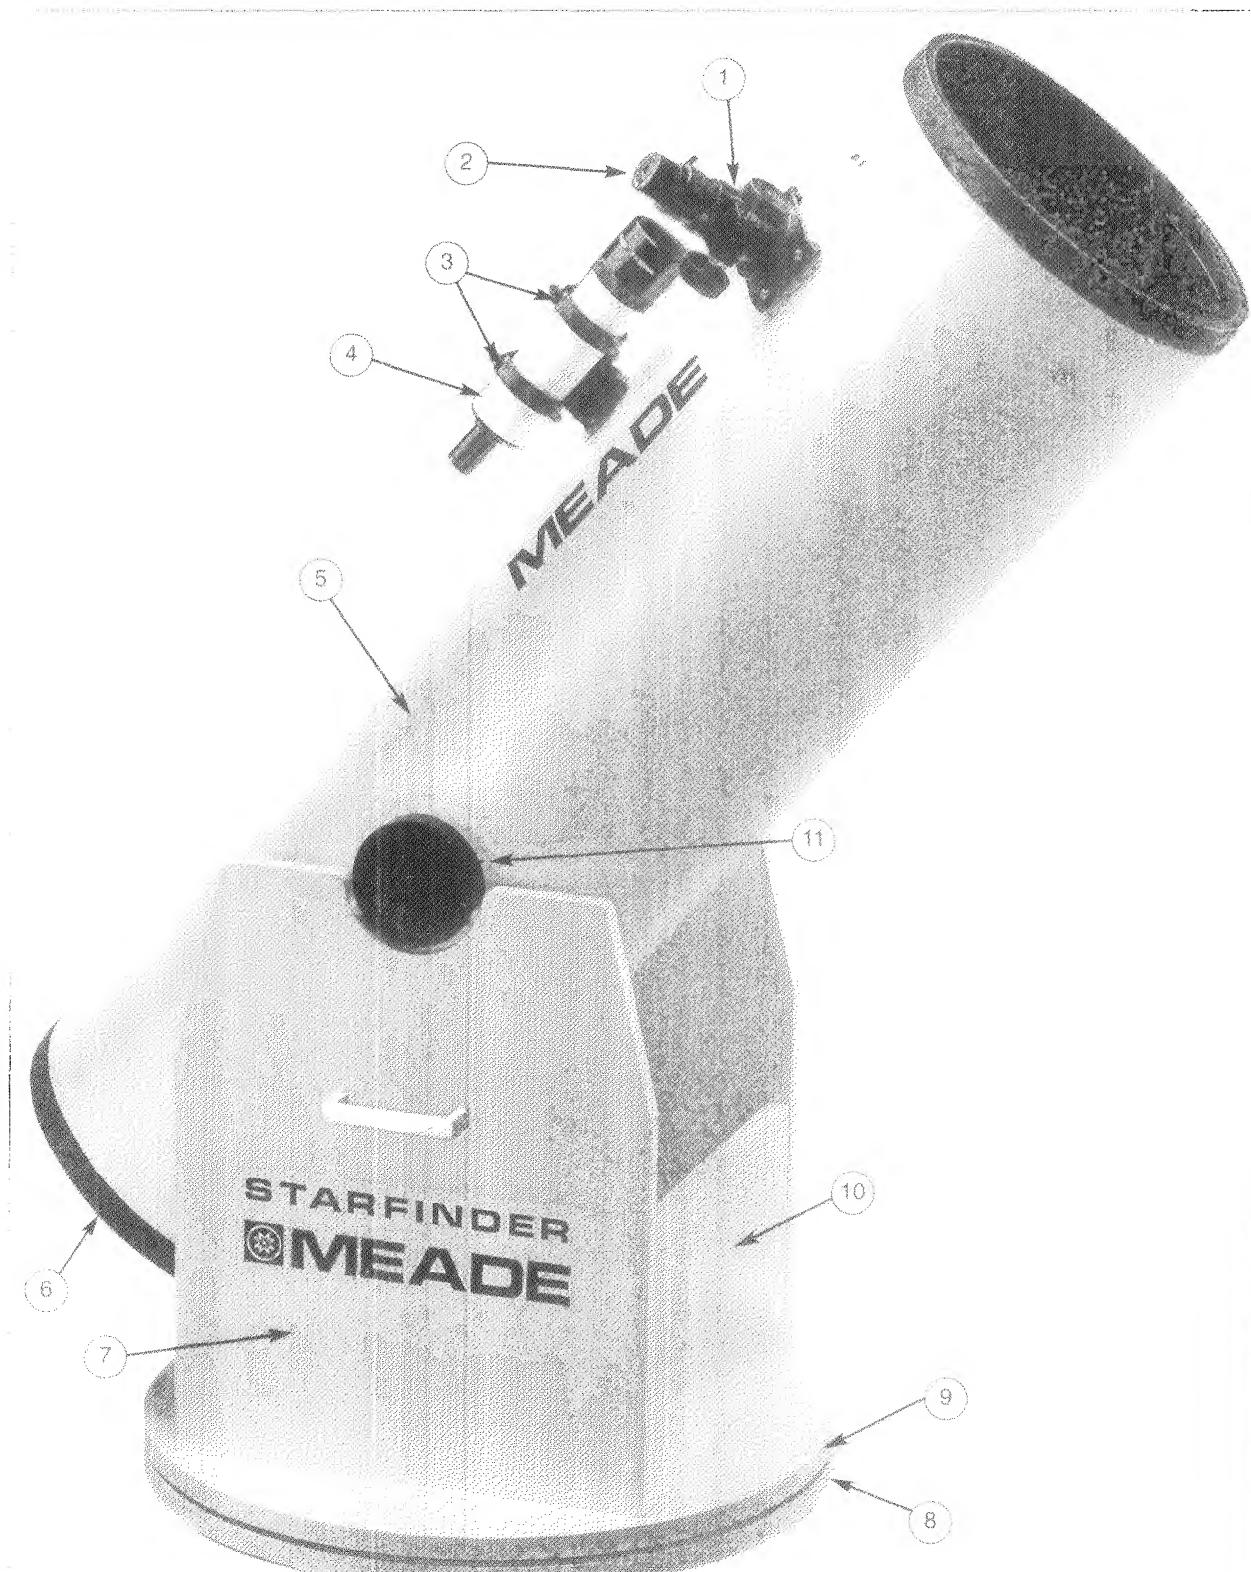

Fig. 1: The Meade Starfinder Dobsonian Telescope.
Captions for Fig. 1
When first opening the packing boxes, note carefully the following parts included with the Starfinder Dobsonian Telescope (use Figure 1 and 2 to aid in the identification process):
1. **Attaching the Focuser:** Lay the tube flat on the floor. Align the holes in the focuser assembly (1, Fig. 1) with the four pre-drilled holes in the optical tube. From the provided hardware, place the four Phillips-head screws through the holes. Then, carefully reach into the optical tube and attach a nut and washer to each screw. Tighten the screws, but do not overtighten; tightening to a firm feel is sufficient.
2. **Attaching the Viewfinder:** With the optical tube lying flat on the floor, align the two holes in the viewfinder bracket (3, Fig.1) with the pre-drilled holes in the optical tube. From the supplied hardware, place a screw through each of the holes. Carefully reach into the optical tube and attach a nut to each screw. As with the focuser, tightening to a firm feel is sufficient. Overtightening may result in damage to the tube's finish. Aligning the viewfinder is discussed later in this manual.
4. Carefully place the assembled optical tube into the previously assembled base as illustrated in Figure 1. Note that the two large bearings on the side of the tube (11, Fig. 1) rest in the cutouts of the mount . Also note the orientation of the tube to the mount; the focuser (1, Fig. 1) should be on the opposite side from the mount's Front Board (10, Fig. 1).